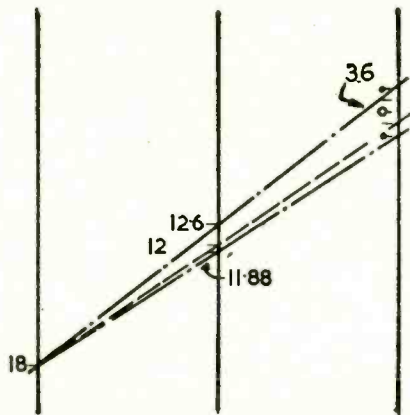

Fig. 4—Adding parallel resistors to reduce total resistance of combination.
**Example 3:** Fig. 4 shows the use of the chart for lowering the resistance of a known resistor to another value by connecting a resistor in parallel with it.